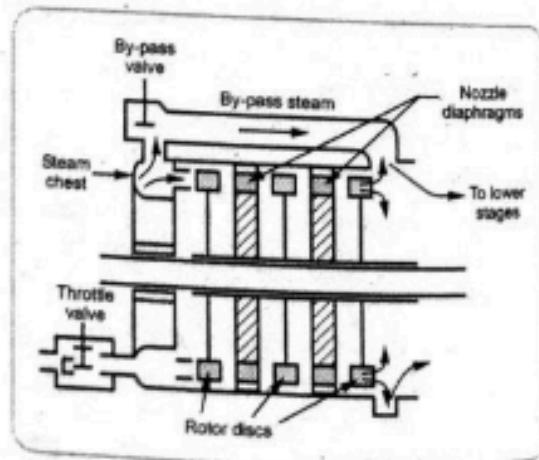

Fig. 4.51 : By-pass governing
- Thus, the by-pass governing is used to admit the additional steam through by-pass valve to the later stages. Refer Fig. 4.51.